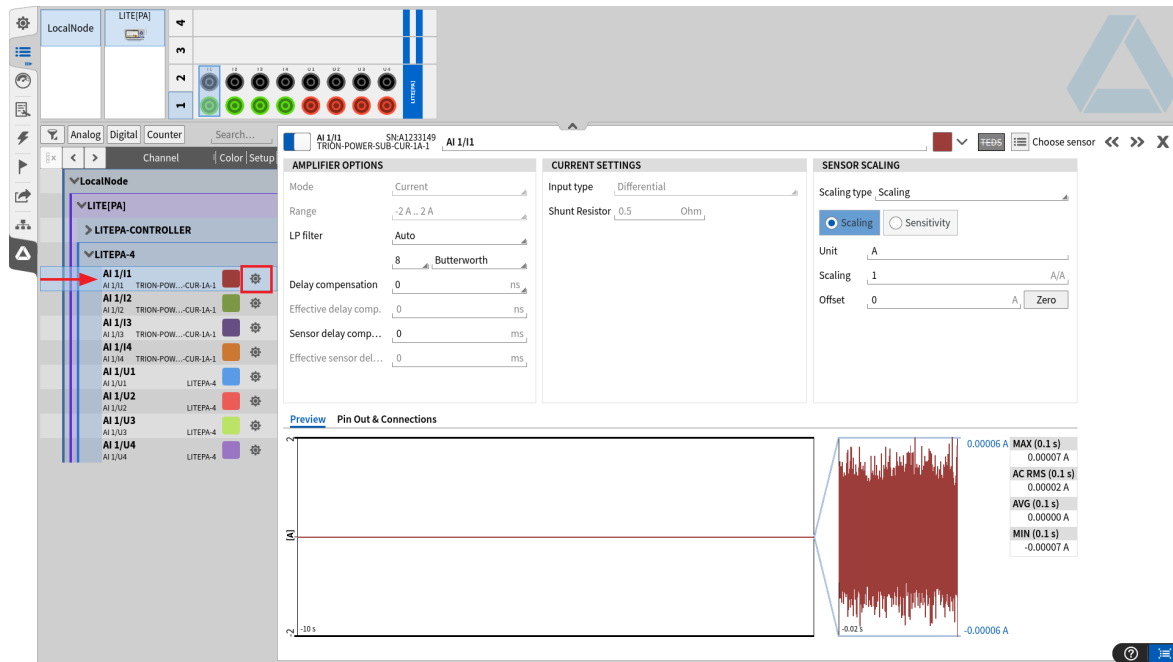

Fig. 16: Changing channel settings
2. Alternatively, the channel settings will also open by clicking on the gear button (see Fig. 16).